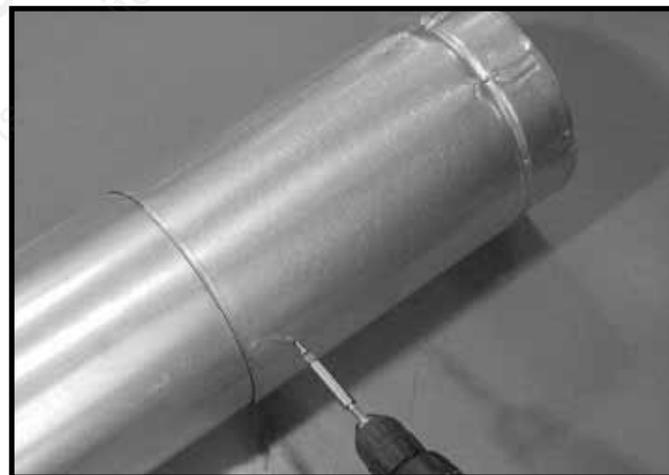

Figure 39 Screws into Slip Section
- Secure the pipe and slip section with two screws no longer than 13 mm, using the pilot holes in the slip section. See Figure 39.